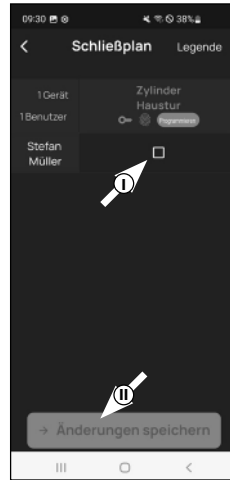

Fig. 2
- A table is displayed consisting of the existing cylinders (horizontal) and the configured users (vertical) (Fig. 2). Select the checkbox where you wish to authorise the respective user to use the corresponding lock (I) (Fig. 2) and then click on the button "Save changes" (II) (Fig. 2).